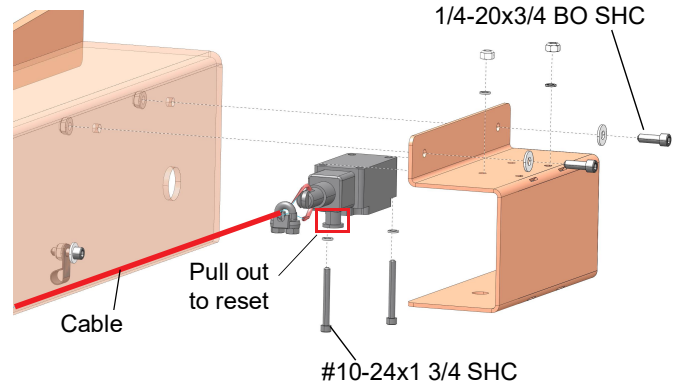

FIG. 3-17
3. Install the safety switch, cover, and cable as shown in FIG. 3-17.